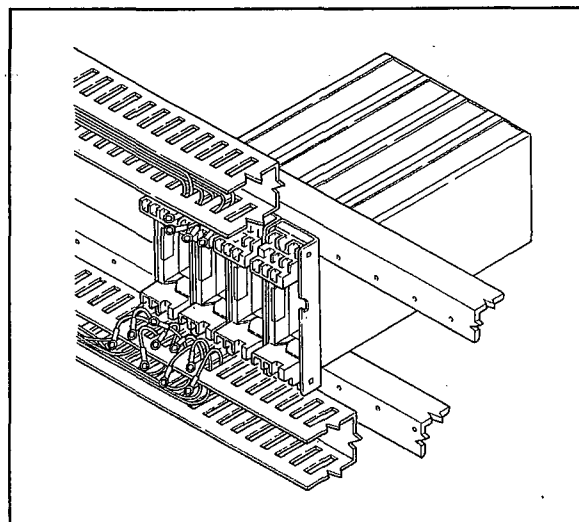
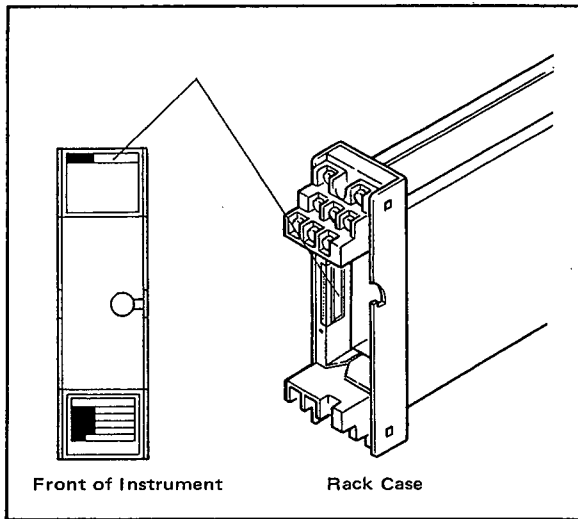

Figure 4-6. Passing Wires Through Ducts.
Figure 4-7. Tag Label Location.
- (2) Pass each wire through the wiring duct. Pass the wires that connect to the output terminal board through the upper duct and the wires that connect to the input terminal board through the lower duct. (See Figure 4-6.)
- (3) Connect each wire to its respective terminal by referring to the instruction manual for each instrument.
- (4) Insert the inner instrument in the case while using great care to insert it into the correct case. A tag label is attached to both the main body and case. If tag numbers are provided, ensure that the required number of tag labels are provided. (See Figure 4-7.)